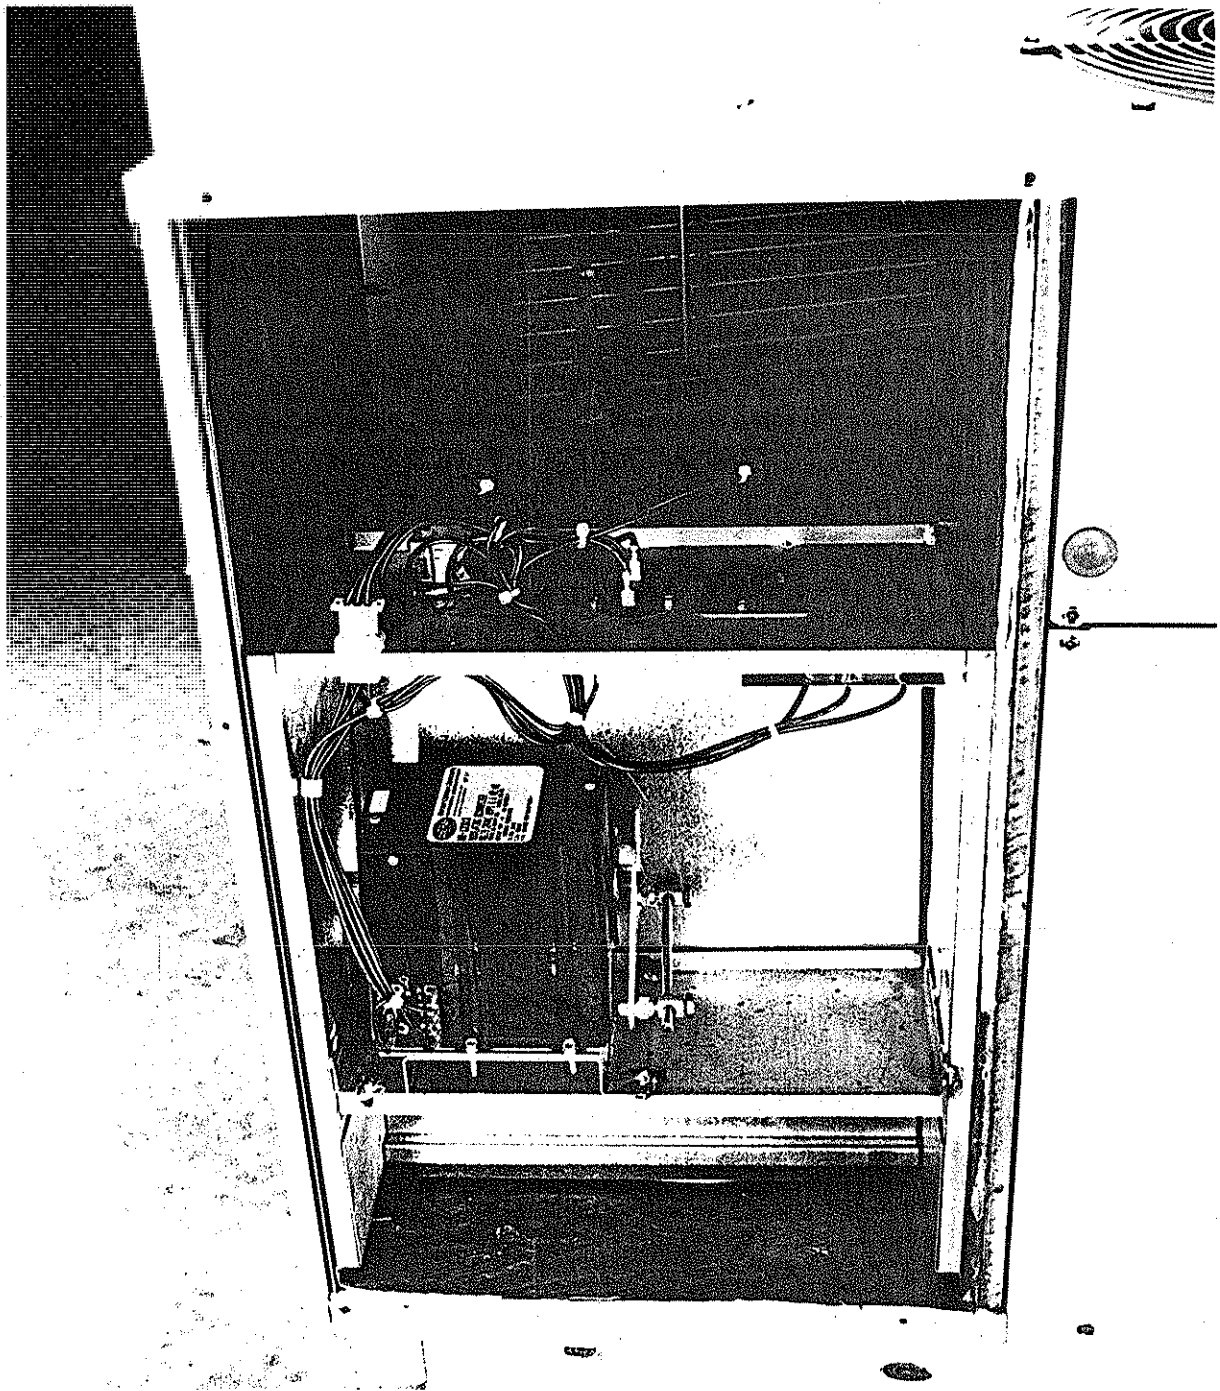

Figure 5.
6. Install the return/outside air damper subassembly in the unit by placing it over the return air opening flange flush with the unit base pan. (Figure 5)
7. Connect the male six pin connector on the end of the harness into the mating female receptacle on top of the damper subassembly. (Figure 5)